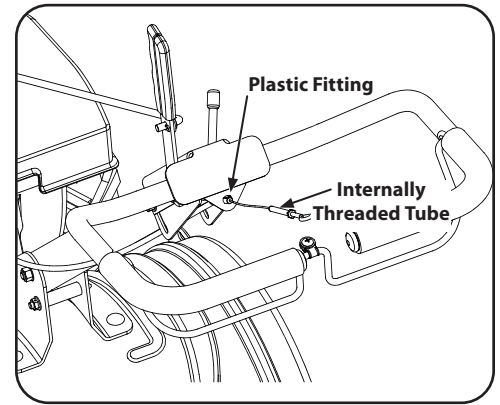

Figure 2-7
- Push the cable through the hole in the center of the handle and snap into the plastic fitting. See Figure 2-7.